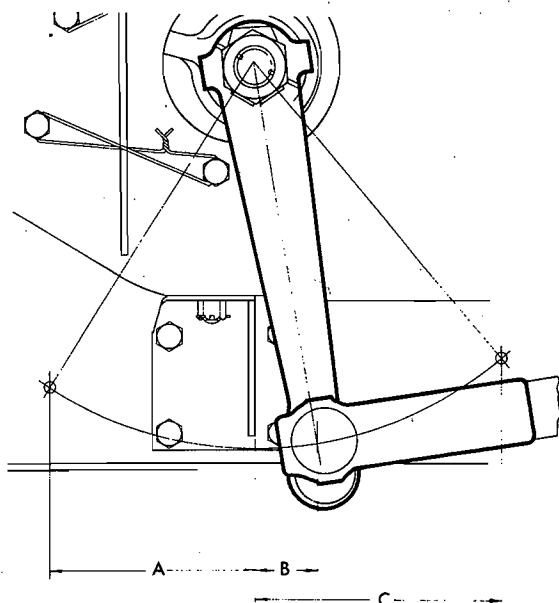

FIG. 4 DRAG-LINK SETTING
**Note:** The drop arm should be within the limits shown in Fig. 4.